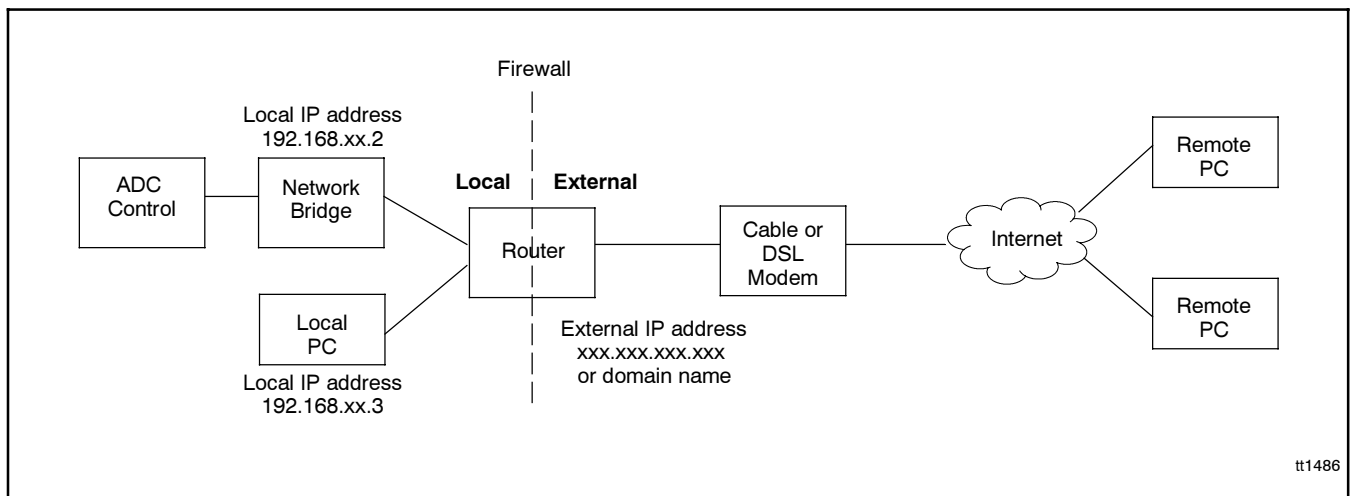

Figure 2-5 Local and Remote PCs
OnCue™ may be installed on local and remote PCs. See Figure 2-5.
- a. If the PC and the network bridge are connected to the same Ethernet router, enter the IP address that was assigned to the network bridge using Device Installer software. See Figure 2-5 and TT-1486.
- b. If the PC is a remote computer accessing the network bridge over the Internet, enter the external IP address or domain name of the ethernet router. See Figure 2-5 and TT-1486.